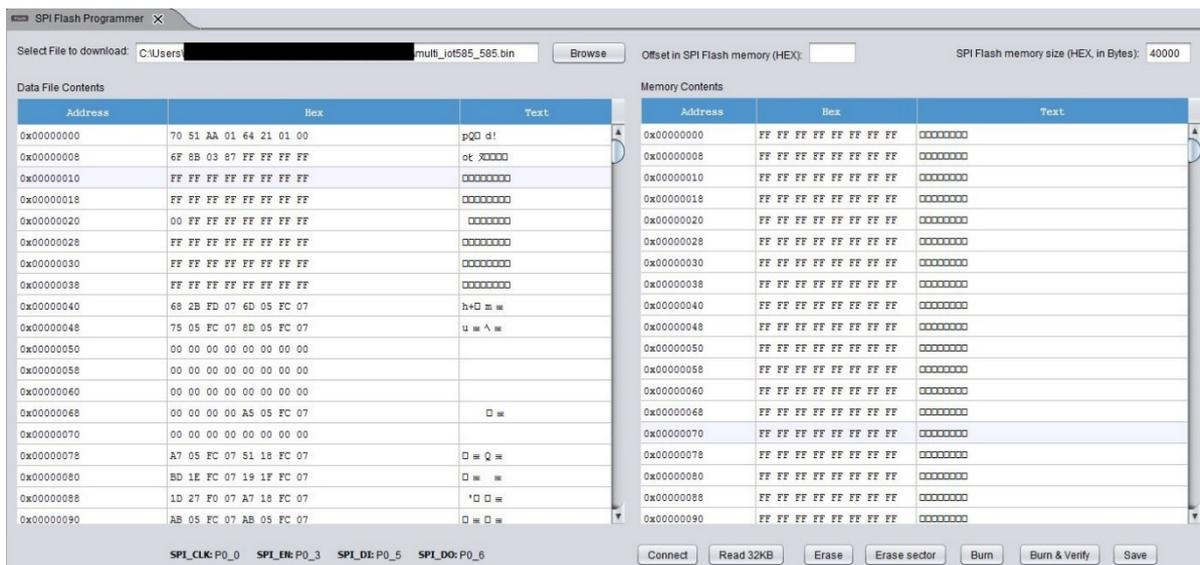

Figure 95: SPI Flash Programmer
- Click the  button on the left to open the **SPI Flash Programmer** (see Figure 95):